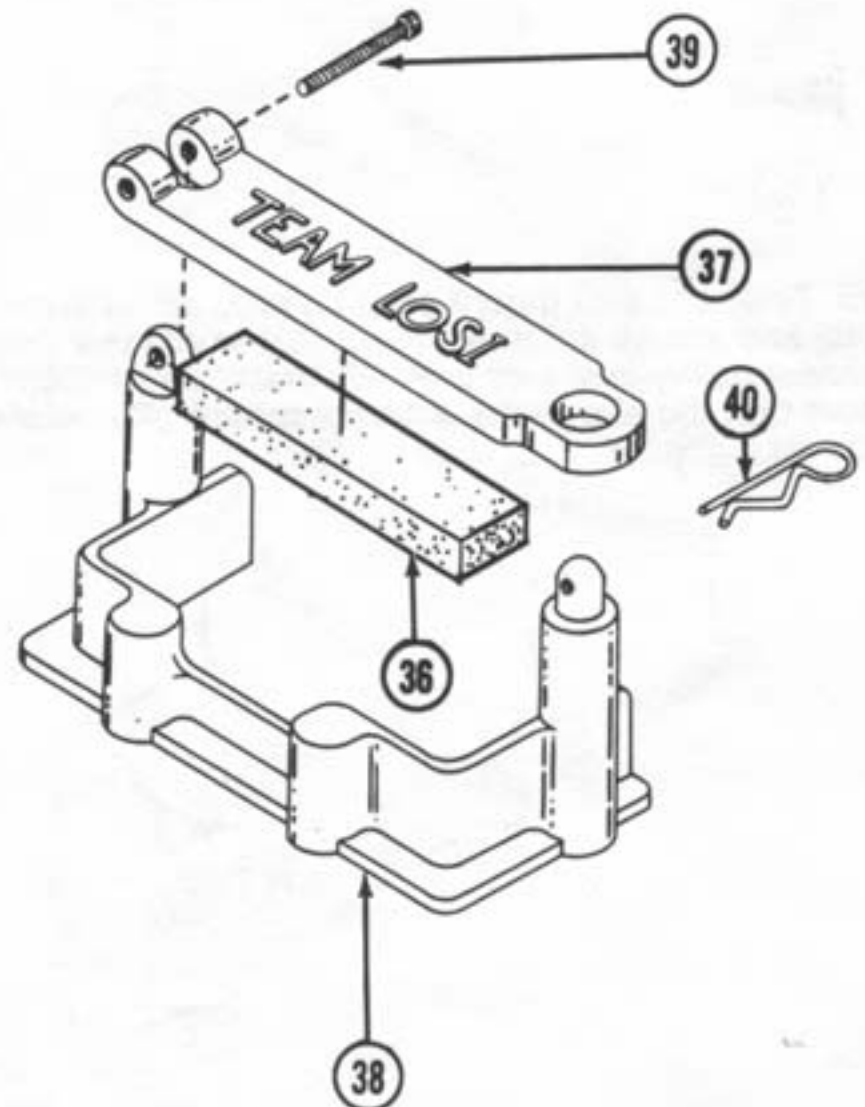

Figure 15
11. Peel off backing from battery box foam (36) and apply to recess in bottom of battery box lid (37).
12. Secure battery box lid (37) to battery box (38) using a 4-40 x 1/2" cap head screw (39) as shown. Fig. 15.
* Note: Thread screw (39) in through chamfered end of hole in battery box lid (37).
13. Secure lid (37) with body clip (40). Fig. 15